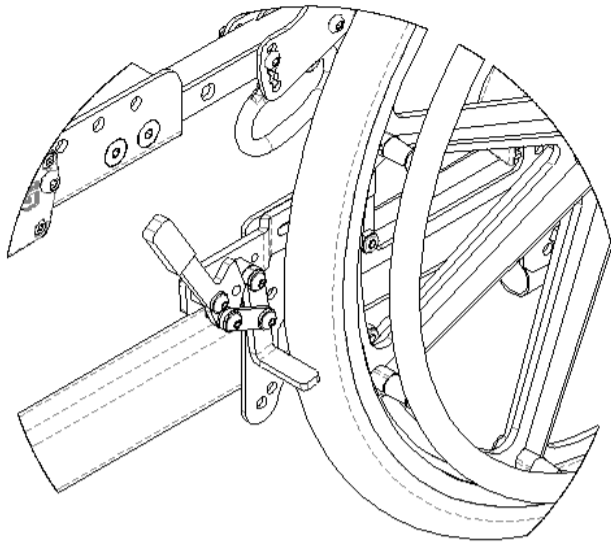

Figure 14.35: *Push to Lock Wheel Locks (Standard)*
1. To engage the push to lock wheel lock (see Figure 14.35), push the lever forward, away from the wheel, until it locks into place.